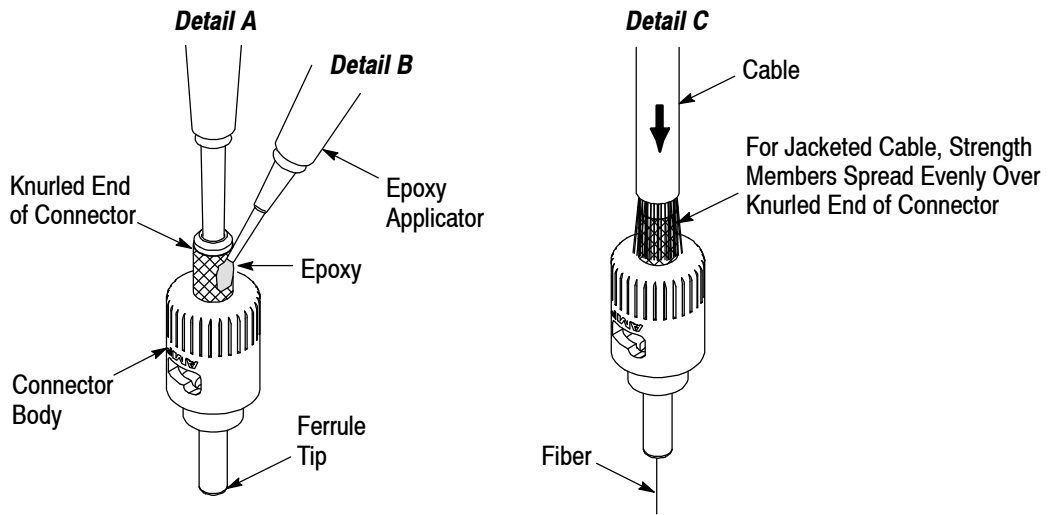

Figure 4
1. Remove the protective cap from the connector. Hold the connector with the knurled end up. Insert the tip of the epoxy applicator as far as possible into the connector body. See Figure 4, Detail A.
4. For jacketed cable, apply a drop of epoxy to the outside of the knurled end of the connector, and distribute it evenly around the circumference of the knurled end. See Figure 4, Detail B. **DO NOT** allow any epoxy on the coupling nut or spring area.
5. Using a twisting motion, gently insert the fiber into the connector until it bottoms. The fiber should appear at the tip of the ferrule. Refer to Figure 4, Detail C.
- For jacketed cable, make sure that the strength members are spread out evenly over the knurled end of the connector. See Figure 4, Detail C.